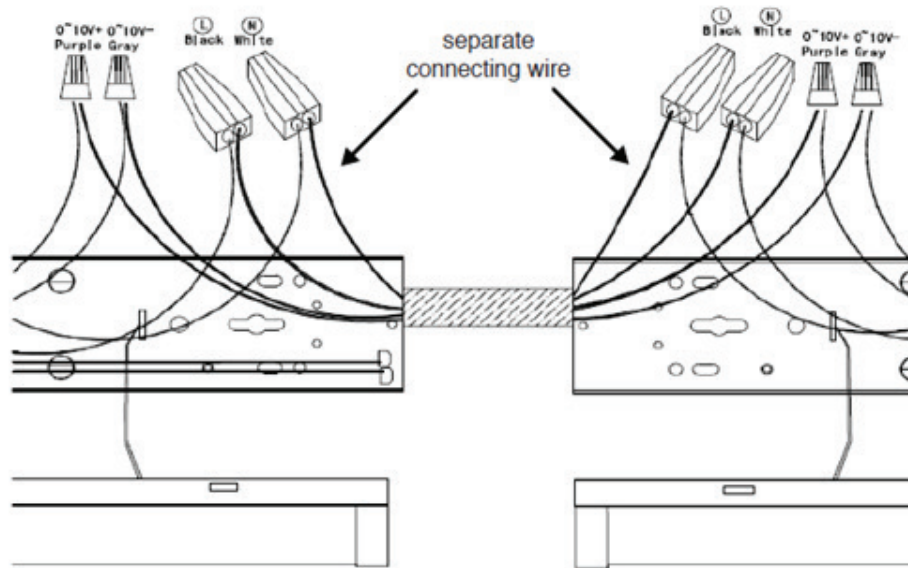

Figure 1
2. Connect the two dimmer wire as figure 1 if dimming function is needed.